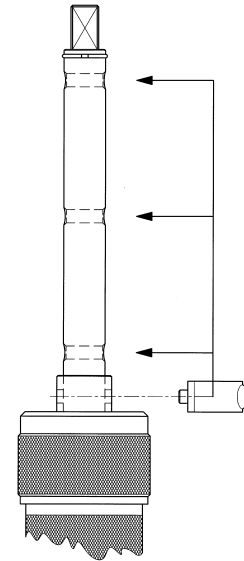

Figure 32
- For this type of branch connection and intervention, position the retention mechanism in the first (lowest) of the three anchoring openings on the chuckshaft. See *Figure 32*.